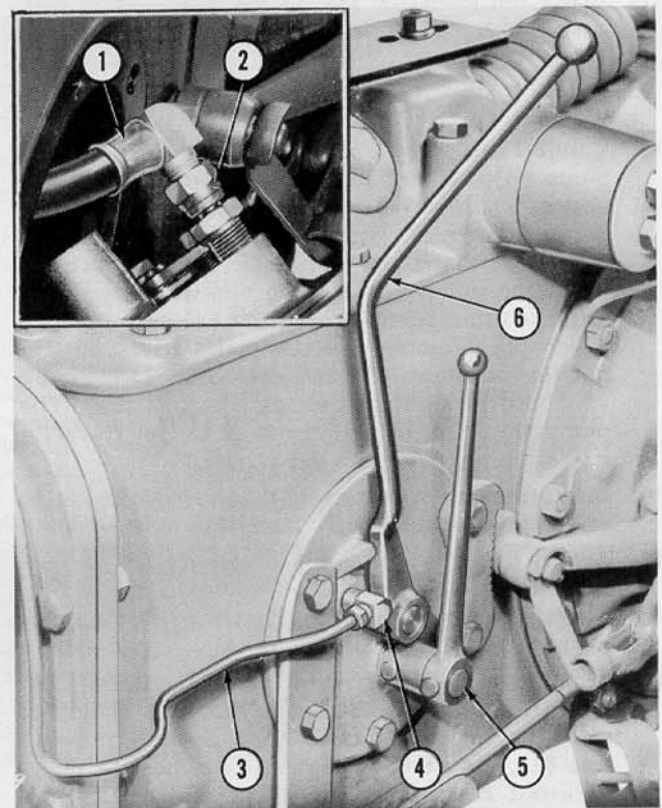

Figure 6
10. Install the new gasket and attach the hose (1), Figure 6, to the swivel nut (2) on the left hand cover. Be sure that the hose is not twisted when the cover is in place. Bolt the cover to the tractor
as shown in Figure 6. Make sure that the P.T.O. shifter lever arm (5) is engaged in the P.T.O. shifter rail.
17. Replace the hydraulic and differential oil. Place a drip pan under the tractor to catch oil from the high pressure line. Start and idle the tractor to bleed all air from the hydraulic system. When a steady flow of air-free oil is obtained, stop the tractor engine and attach the high pressure line (3) to the fitting (4) in the left side cover as shown in Figure 6.
The Live Power Take-Off Attachment lever is located within easy reach of the tractor operator. Forward motion of the tractor can be stopped, while the P.T.O. shaft power continues, by merely moving the lever (6), Figure 6, rearward. When the lever is moved to disengage the clutch, hydraulic pressure is no longer applied to the clutch assembly, thus allowing the clutch discs to separate and stop the power to the tractor rear wheels. As long as the lever is held in the rearward position, the clutch will be disengaged. To start the tractor in motion, engage the clutch by releasing the lever gently, as in the case of a foot clutch. Feathering the clutch or holding the lever back slightly to obtain a very slow start or slow forward speed of the tractor will cause excessive heat and therefore should not be used too frequently.